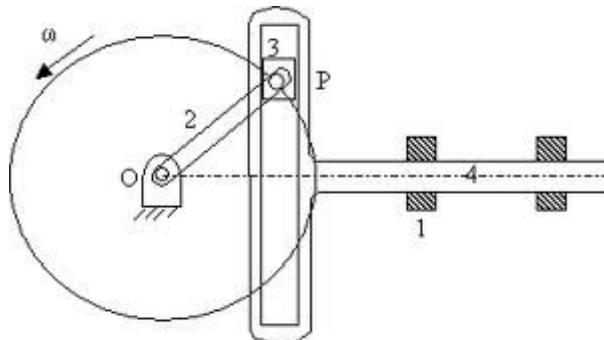

Fig. 1.20
**a) Scotch yoke mechanism :** As shown in fig 1.20, this is an inversion of double slider crank chain which can be used for transforming rotary motion into reciprocating motion. Here fixing link 1, rotary link 2 (crank), link 4 will reciprocate in link 1 & link 3 will reciprocate in link 4.